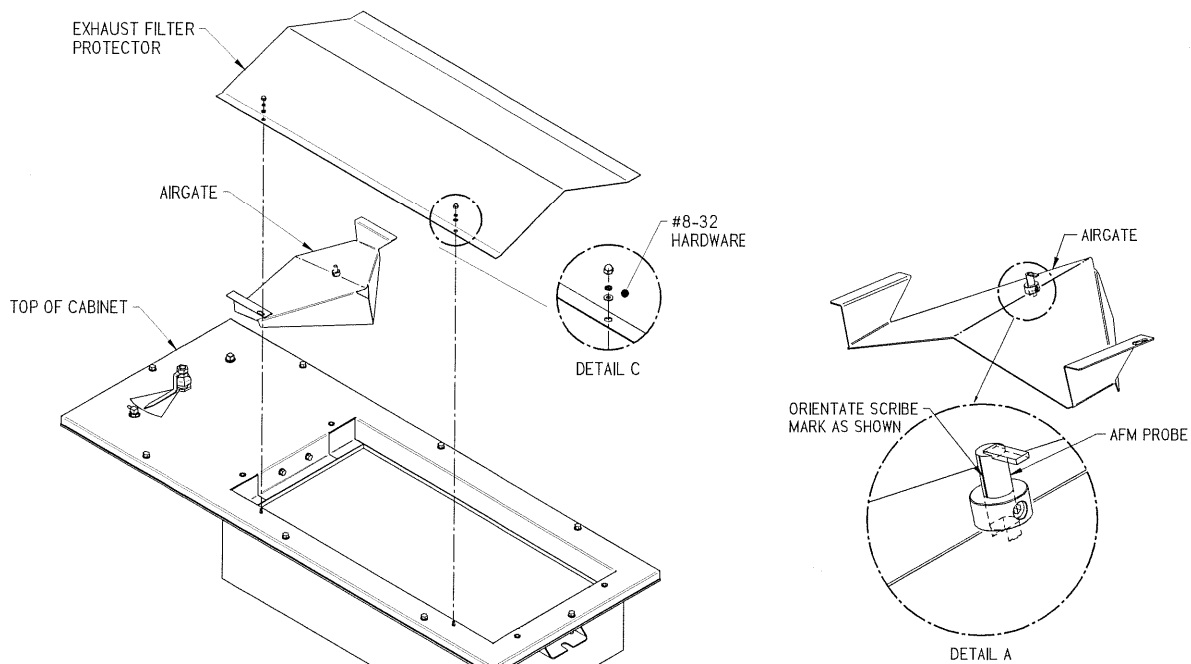

FIGURE 1
4. Next grasp the Airgate and carefully lower it onto the top seal panel locating the keyhole contour onto the far left weld stud as shown in *figure 1*. Once in place slide the Airgate to the far left until it stops. Route probe wiring behind front access panel and plug into AFM. Be sure to tie up extra probe cord length in order to prevent interference with viewscreen.
3. Remove the exhaust transition access panel and place to one side.(*See Figure 1*). Carefully place the cardboard sheet provided on the filter face center. Grasp the airgate with your index finger inserted into the front opening as shown in *Figure 3*. Carefully insert the airgate through the front access opening. Once the airgate is completely inside exhaust transition turn the airgate to the left side of the transition and slowly lower it onto the top seal panel locating the keyhole contour onto the far left weld stud. Insert the #8-32 locknut provided leaving a 1/16 gap between the airgate flange and the lower portion of the nut. Once the Airgate has been installed carefully slide cardboard protector sheet to the right side of the exhaust filter and remove.